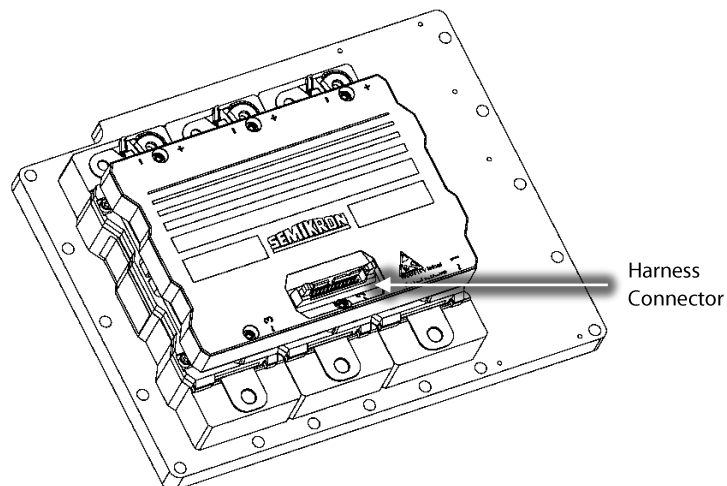

Figure 16 – Inverter Harness Removal
26. Remove the Inverter Cable Harness from the top of the Inverter. Refer to Figure 16 (Inverter Harness Removal).